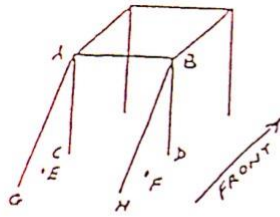

FIG 1
- A. The general design shall be as in fig 1.
- D. Roll cages must have two longitudinal braces, one each side, from the roll cage towards the rear of the vehicle, shown as A to G and B to H in fig 1.
- E. The fitting of diagonal bracing is compulsory. Such bracing must be made of the same material as the roll cage, and shall be fitted as in fig 1. from either A to D or H or to any point between D and H, or from B to C or G or to any point between C and G. Two diagonal braces, conforming to this clause, may be used. Alternatively an A frame can be used in main hoop, with the top of the A in the centre of A-B, bottom legs can be between C-G and D-H or chassis mounted.
- E. All tubes to be as straight as possible between structural bends as per fig 1.
- B. If any of the pipe that forms the roll cage structure as in FIG1 – Roll Cage General Design, is bent out of line, because of impact, by more than the OD of the pipe and cannot be straightened, repaired or replaced without showing signs of damage or crimping then that vehicle will be deemed unable to continue in competition until it has been satisfactorily been repaired and passes scrutineering again.